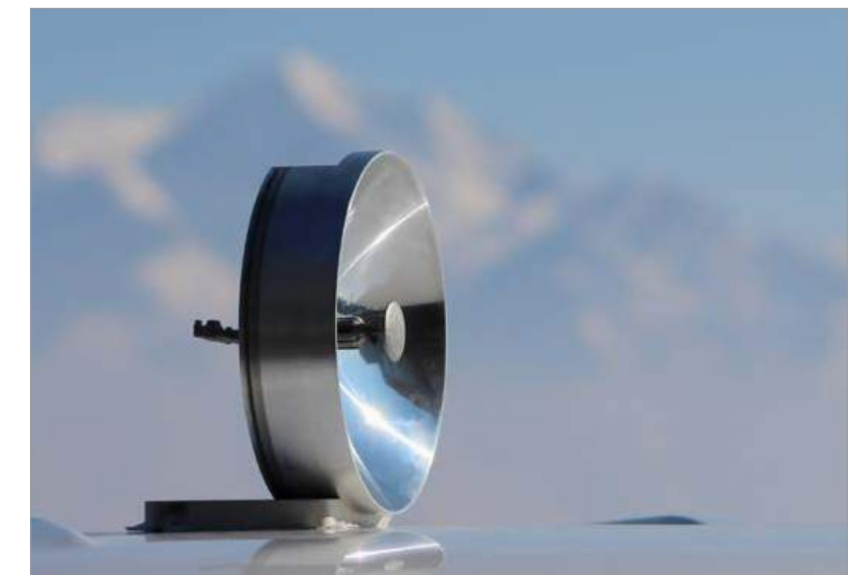

Fig. 1 Extreme parts consolidation of antenna systems enables reduced size, weight, lead time and cost while boosting RF performance
Optisys, based in West Jordan, Utah, USA, is a specialist producer of innovative radio frequency (RF) antenna systems using Additive Manufacturing. By applying the principles of Design for Additive Manufacturing (DfAM), the company's engineering team can take an antenna assembly that has a hundred parts and consolidate them into just one. Optisys' CEO Clinton Cathey calls the results of this extreme parts consolidation 'single-piece assemblies.' The result is a dramatic reduction in size, weight, lead time and cost while boosting RF performance. Fig. 1 shows an aircraft antenna with an AM antenna feed running horizontally through its centre and an AM Ortho Mode Transducer protruding through the rear; these two components were optimised through DfAM.